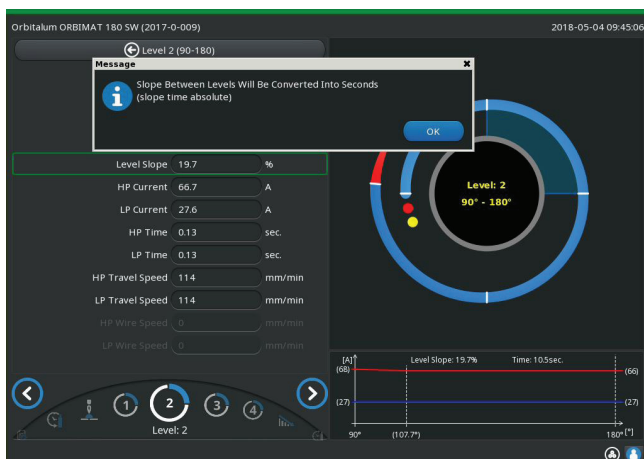

Fig. 17: Converting the slope time from percent to seconds
- ▶ Confirm the message (see Fig. 17) by pressing the rotary knob.